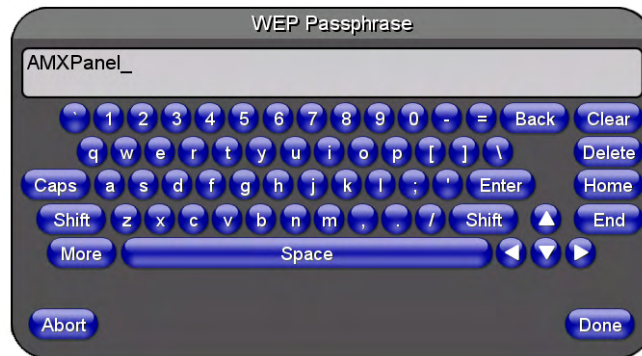

FIG. 27 WEP Passphrase Keyboard
8. Within the WEP Passphrase keyboard (FIG. 27), enter a character string or word (such as **AMXPanel**) and press **Done** when finished.